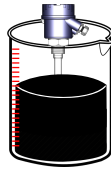

Figure 17: Test Tank
- Prepare a narrow transparent test tank & fill the application media as shown in the following Figure 17.